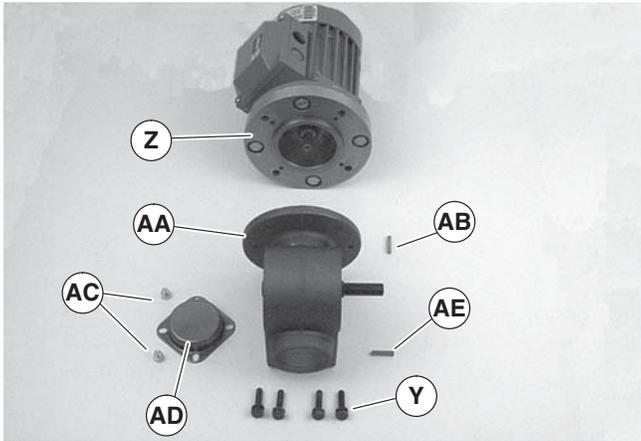

Figure 16
- Remove four screws (Figure 16, item Y). Detach motor (Z) from gear reducer (AA). Retain motor output shaft key (AB).
- With key (Figure 16, item AB) in keyway, slide motor (Z) and gear reducer (AA) together. Install screws (Y) and tighten.